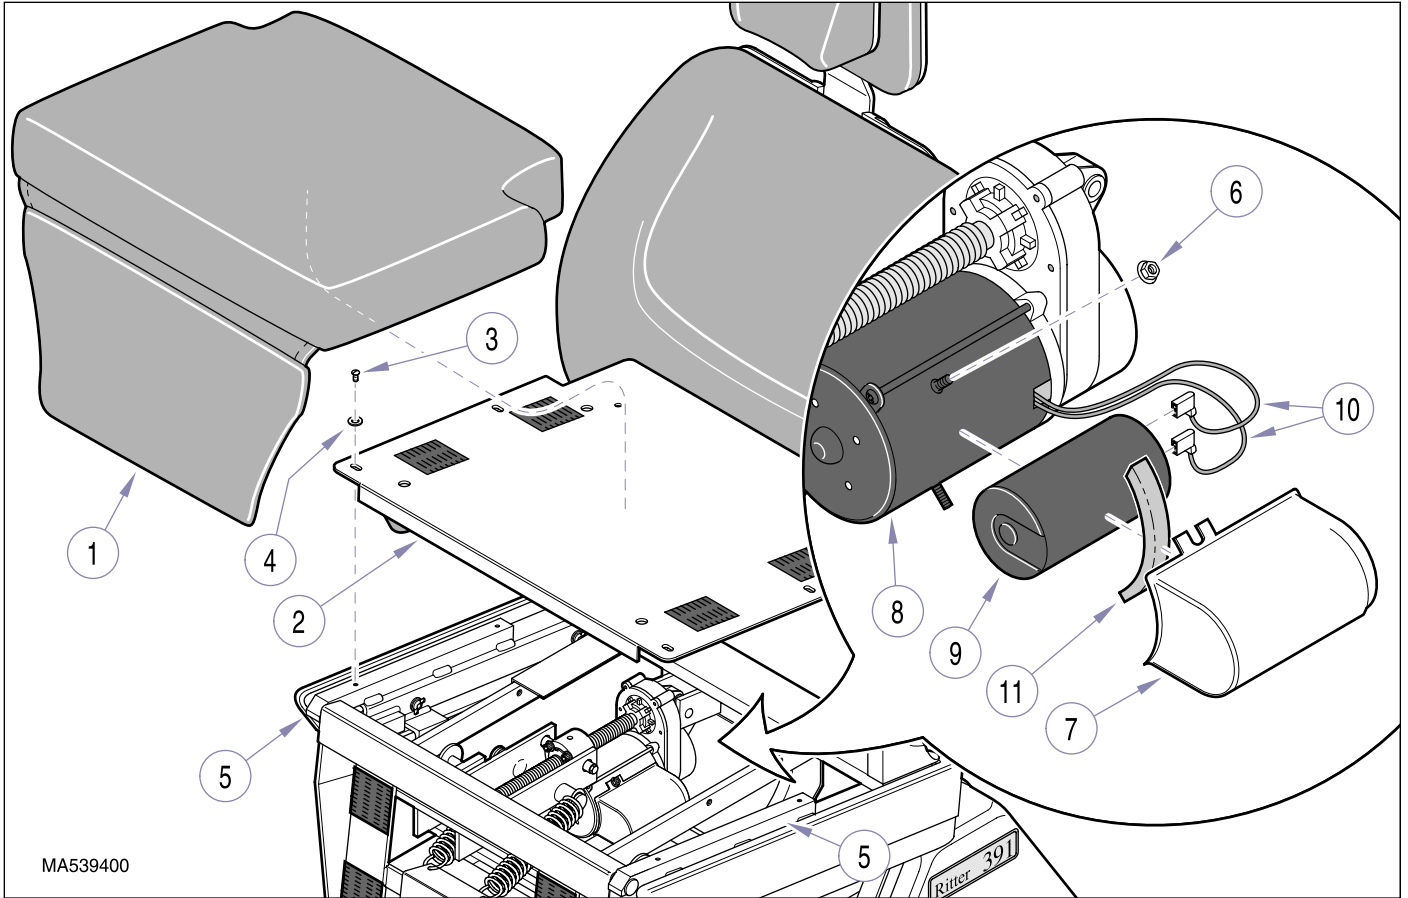

Figure 4-9. Back Capacitor Removal / Installation
- (1) Unplug chair power cord from wall outlet receptacle.
- (2) Separate velcro of seat cushion (1, Figure 4-9) from velcro of seatrest plate (2) and remove seat cushion from chair.
- (3) Remove four screws (3), washers (4), and seatrest plate (2) from L.H. & R.H. support weldments (5).
- (4) Remove two locknuts (6) and partially separate housing (7) from back motor (8).
- (5) Carefully and gently pry back capacitor (9) out of housing (7).